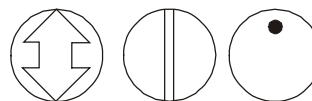

Figure 3: Damper Position Icons
1. Make sure that the damper blade is visually accessible or its position is permanently marked on the end of the damper shaft as shown in Figure 3.)